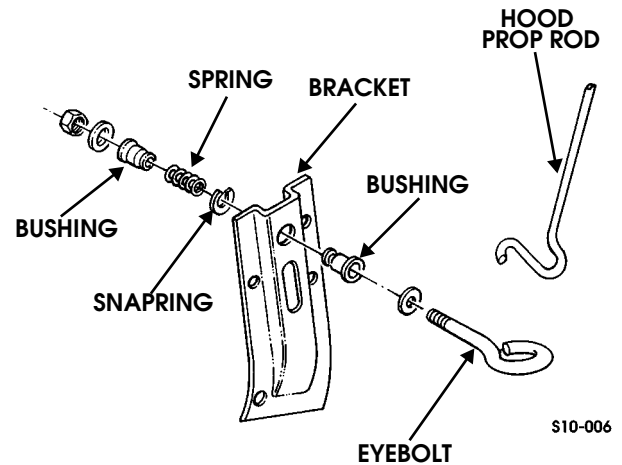

Figure 10-83: Hood Prop Rod and Bracket Assembly Breakdown
1. Remove hood prop rod from eyebolt (Figure 10-83).
Inspect two bushings and spring for cracks, wear, or distortion (Figure 10-83).
1. Secure bushing to bracket with snpring (Figure 10-83).